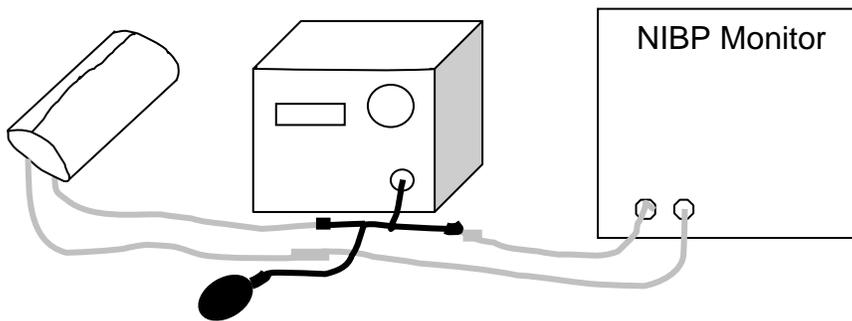

Fig. 2
7. **For static calibration, over pressure testing, and leak testing** connect the SimCube simulator and a manual pump bulb in line with the monitor's cuff and hose as shown in Fig. 2. All SimCube models include a manometer for performing static calibration; some models include a Peak Detect mode for performing over pressure testing and some models include a Leak Test mode for performing leak tests.